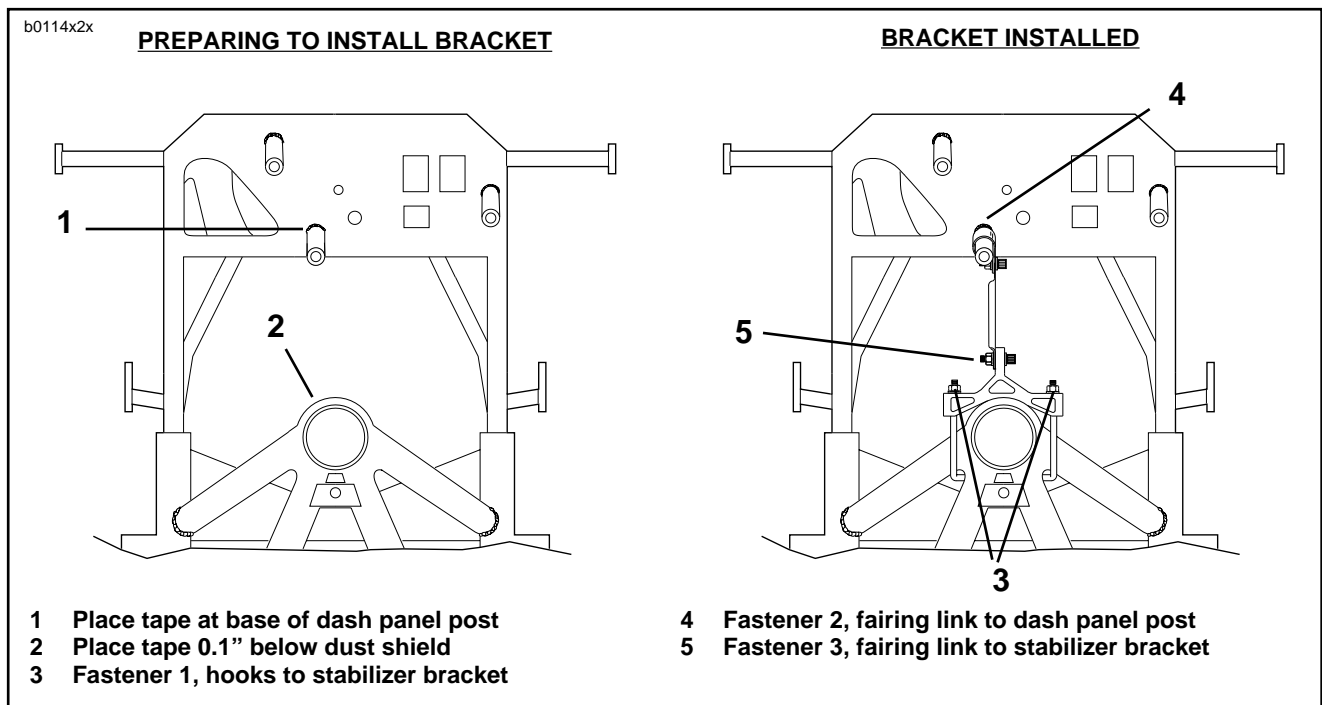
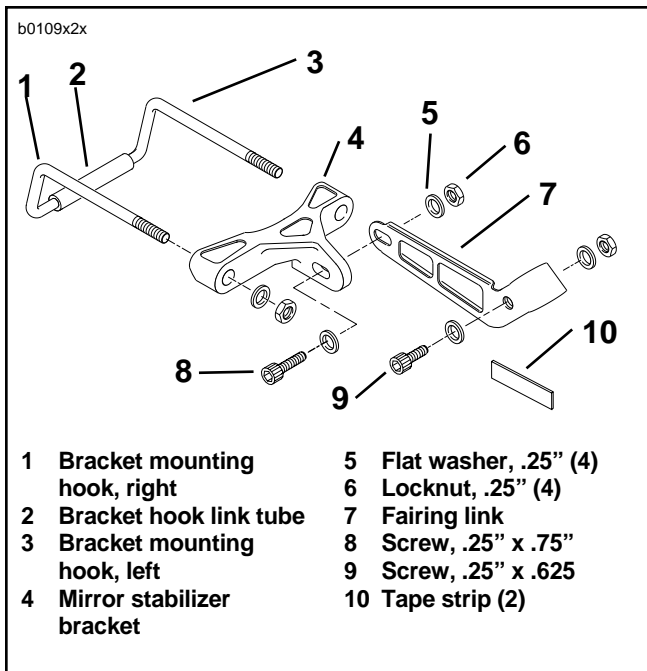

Figure 1. Mirror/Instrument Panel Stabilizer Installation
Figure 2. Kit components
4. See Figure 1. Remove any dirt or grease from the front of the steering stem and fairing bracket. Install the tape strips as shown.
5. See Figure 2. Place the bracket hook link tube (2) on the left bracket mounting hook (3). Slide the link tube and left bracket mounting hook under motorcycle frame tubes as shown in Figure 1.
6. Install the right bracket link tube (1) to complete the assembly. Do not pinch the fuel tank vent hose.
7. Place the mirror stabilizer bracket (4) over the right and left bracket mounting hooks (1,3). Secure with one flat washer (5) and locknut (6) on each side. Do not tighten at this time.
8. Loosely attach fairing link to dash panel mounting post with screw (9), two flat washers (5) and locknut (6)
9. Install screw (8) two flat washers (5) and locknut (6) to connect fairing link to mirror stabilizer bracket. Do not tighten at this time.
10. Fastener tightness depends up on the Vehicle Identification Number (V.I.N.) found on the motorcycle frame. Tighten the fasteners according to the torque specifications given in Table 1. Tighten in the order shown in Figure 1.
V.I.N. Number	Fastener Location as Shown in Figure 1.